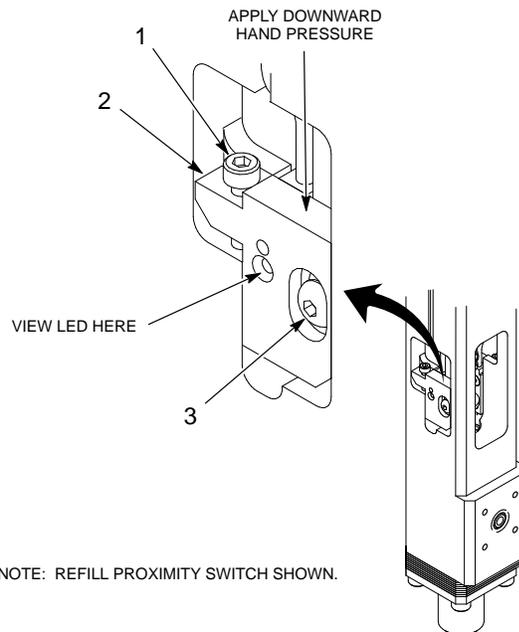

Figure 5 Typical Proximity Switch Adjustment
2. See Figure 5. Loosen the screw (3) until the switch plate (2) moves freely.
3. While applying downward hand pressure on the switch plate (2), perform the following:
- a. Using the ball end of the hex key, turn the adjusting screw (1) clockwise until the LED goes out.
- b. Slowly turn the adjusting screw (1) counter clockwise until the LED comes on. Turn the adjusting screw another $\frac{1}{4}$ turn counter clockwise.
- c. Tighten the screw (3) to 14 in.-lb (1.3 N•m).
- a. Using the ball end of the hex key, turn the adjusting screw (1) counter clockwise until the trigger point is past and LED is off.
- b. Slowly turn the adjusting screw (1) clockwise until the LED lights. Turn the adjusting screw another $\frac{1}{4}$ turn clockwise.